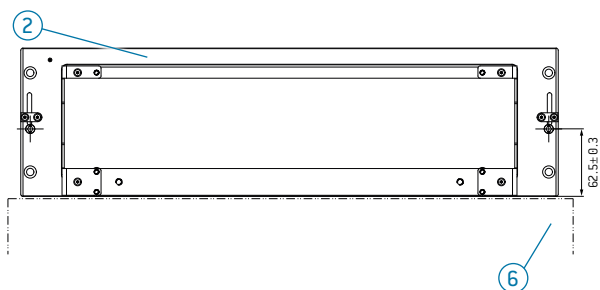
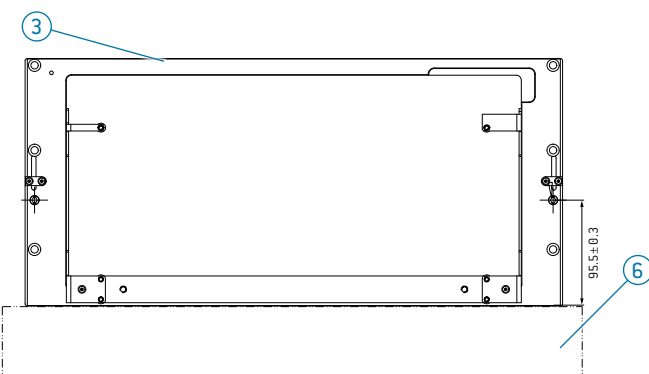

Fig. 91
Fig. 92
- For the installation of a customer support option ⑥ with a 12-Flex TWO mounting plate without platform flange ②, the specified dimension between the centring pin and the support surface ⑥ of the adapter must be observed.
- See Fig. 91
- For the installation of a customer-specific support option ⑥ with a 12-Flex FOUR mounting plate without platform flange ③, the specified dimension between the centring pin and the support surface ⑥ of the adapter must be observed.
- See Fig. 92